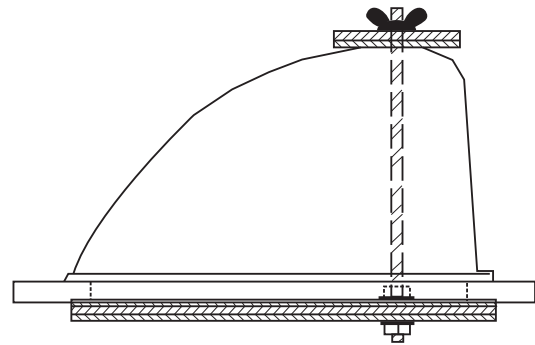

Figure B-3
11. Use bowl-clamping fixture (or similar device) to hold bowl until adhesive sets. See Figure B-3.